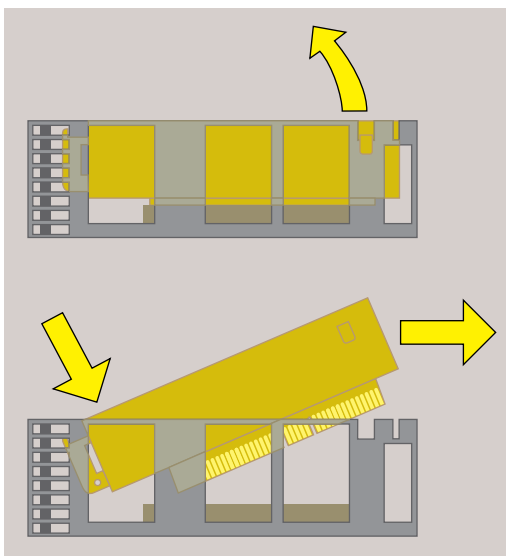

Figure 2-20 Removing the PCI Tray
3. Push down slightly on the rear of the PCI tray and remove it from the system module (Figure 2-20).